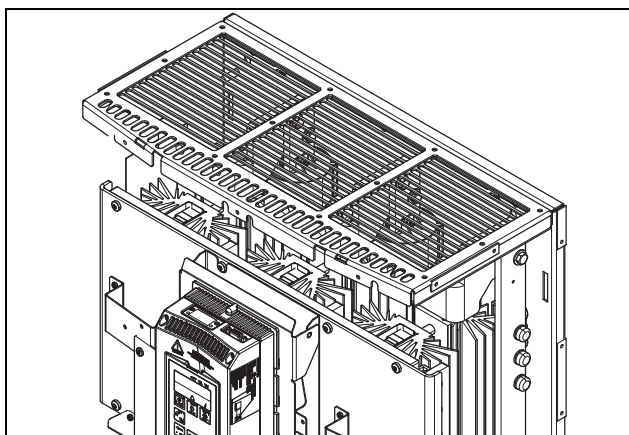

Fig. 21 Cable entry plate.
1. Dismount the cable entry plate with the plastic grid from the top of the TSA unit. The cable entry plate is mounted to the TSA back plate with three M5 nuts, see Fig. 21.
1. Dismount the cable entry plates with the plastic grid from the top and the bottom of the TSA unit. Each cable entry plate is mounted with three M5 nuts, see Fig. 21.